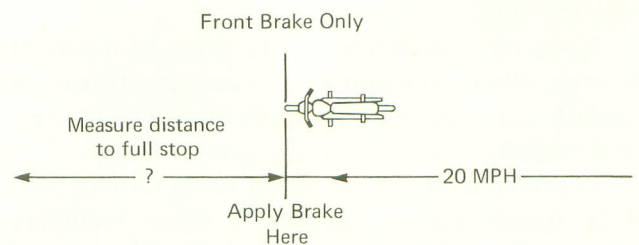

Fig. 2-15 Front brake stopping distance
**Front Brake Drill.** Practice stopping with the front brake only. Set up a specific section and practice accelerating to 20 miles per hour, then stopping your bike with the front brake only. You should be able to stop in about 20 feet from 20 miles per hour by using the front brake only. Don't rush it though; be satisfied with 40 feet on your first day's try. If you can't get down to 20 feet, check your front brake (Fig. 2-15).